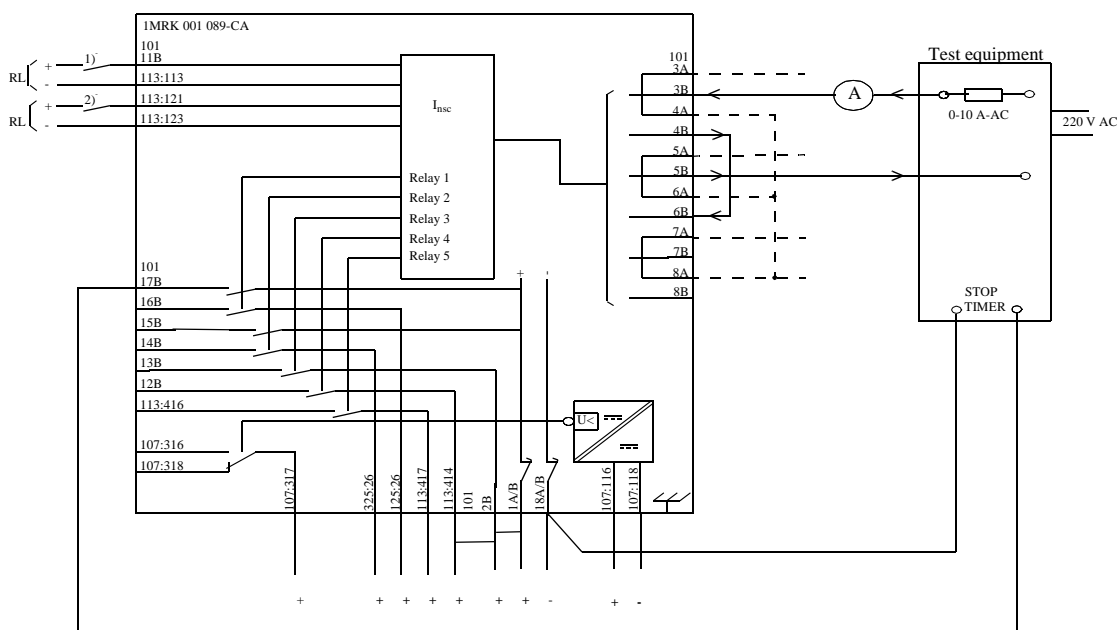

Fig. 12 Connection of test apparatus to RAIK 400 for testing of the negative sequence overcurrent function. Test handle RTXH 18 inserted.
Fig. 12 shows as an example, the connection of test equipment for secondary testing of the negative sequence overcurrent protection RAIK 400, Connection Diagram 1MRK 001 089-CA. When testing, the actual circuit diagram of the protection, should be available.
**1. Connections:** Insert the test-plug handle in to the test switch. Connect the test set and ammeter according to Fig. 12. Check that auxiliary voltage is connected to terminal 101:1A and 101:18A. Interconnect terminals 1 and 2 on the test handle and also to 113:414 to get output voltage to test terminal 12 and 13.